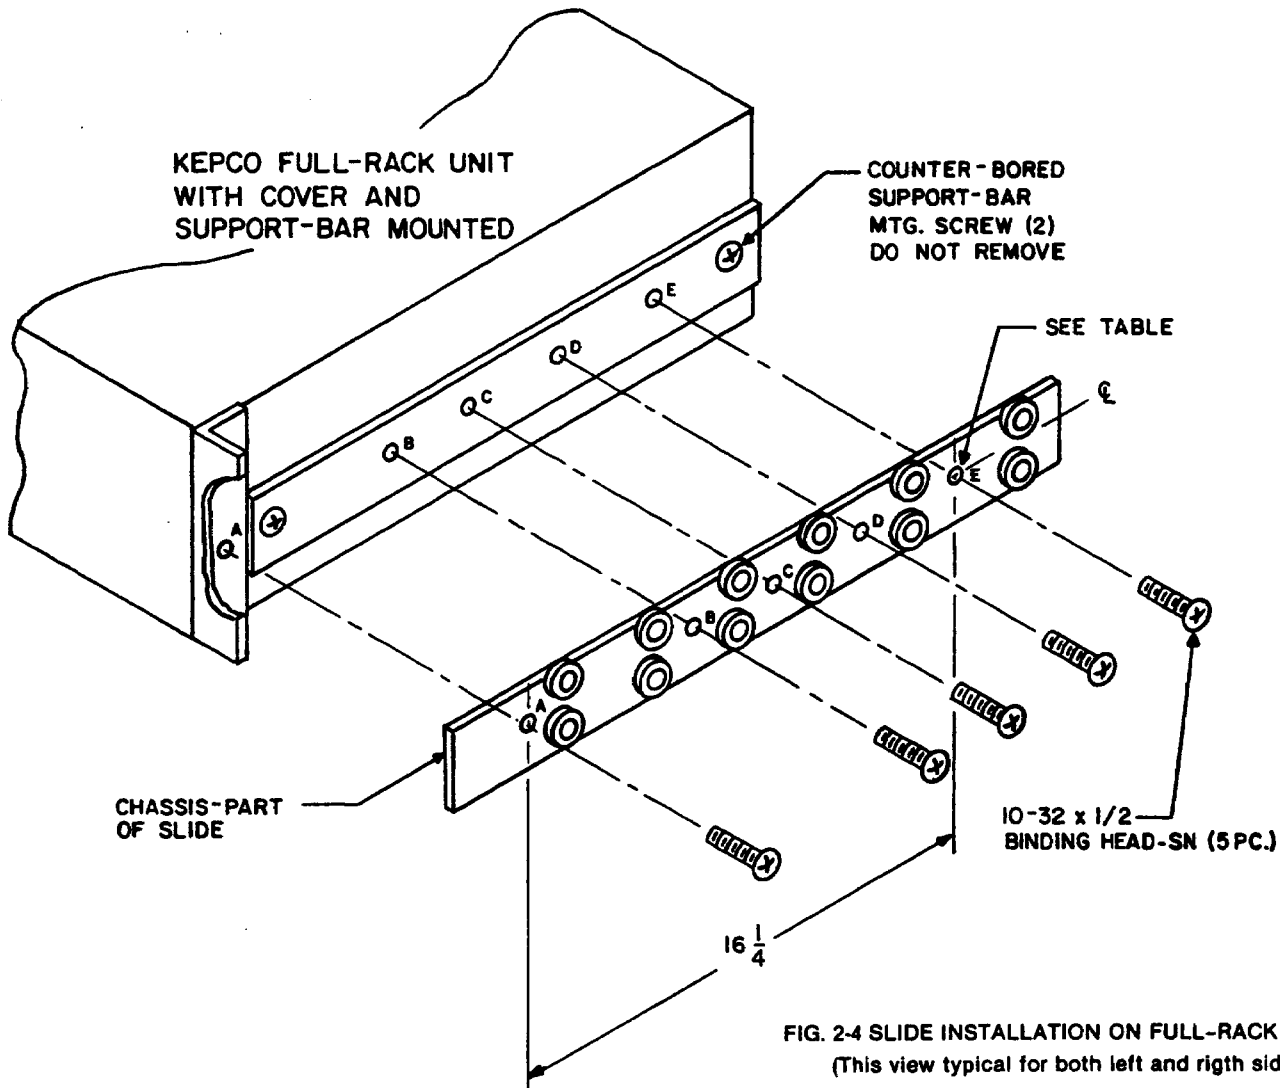

FIG. 2-4 SLIDE INSTALLATION ON FULL-RACK UNITS
#### 2-12 INSTALLATION OF FULL-RACK BOP MODELS (Refer to Section I, Fig. 1-4 and to FIG. 2-4).
2-15 PROCEDURE (Refer to FIG. 2-4):
- 4) Mount the chassis section of the slide to the left and right side of the BOP, as shown in FIG. 2-4. Use the same 10-32 x 1/2" Mounting Screws which you removed in step (1).